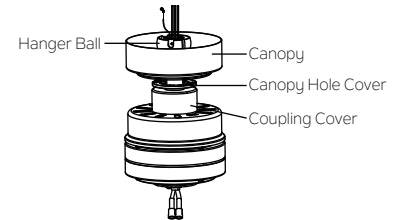

Fig. 8
**Step 4.** Slip the coupling cover, canopy hole cover and canopy onto the downrod. Carefully reinstall the hanger ball onto the downrod. Make sure the cross pin is in the correct position and the set screw is tight and the wires are not twisted. (Fig. 8)